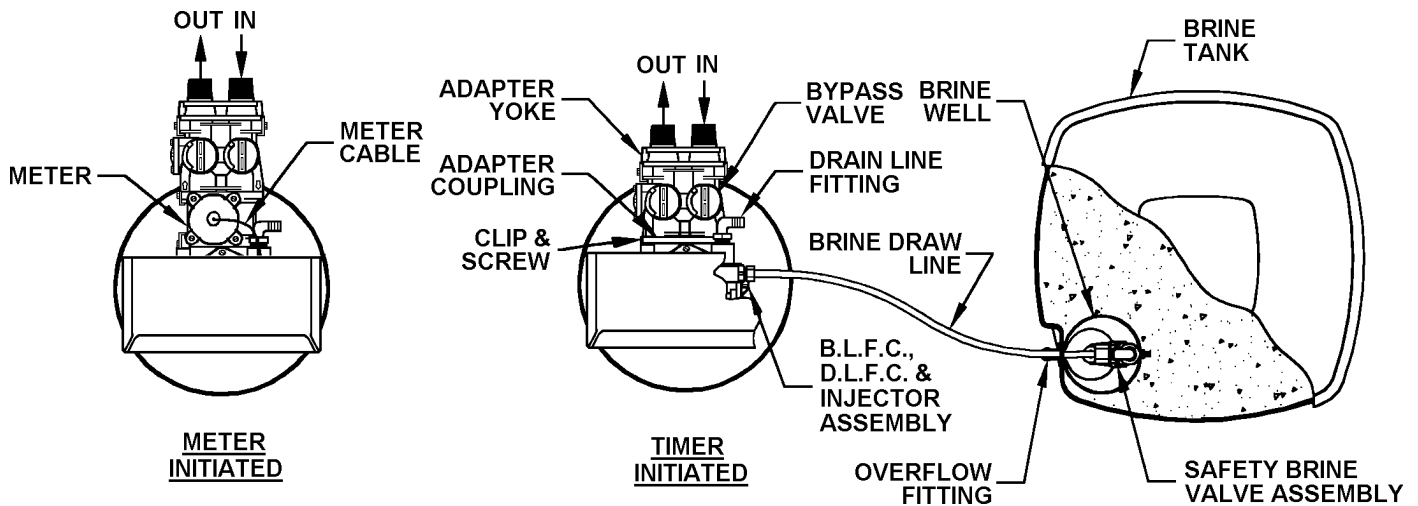

Figure 2. SOFTENER AND BRINE TANK ASSEMBLY, TOP VIEW
Step 1. If not factory pre-installed, attach BYPASS VALVE or YOKE ASSEMBLY using ADAPTER COUPLINGS, CLIPS and SCREWS to CONTROL VALVE (Figure 2). On meter initiated models, attach METER between BYPASS VALVE and CONTROL VALVE (Figure 2).
- Step 8. Connect one end of the 3/8 in. poly line to BRINE VALVE located on the right side of CONTROL VALVE. Connect other end to ELBOW inside of BRINE WELL. Brass insert sleeves and plastic ferrules must be used where necessary. (Figure 2 and CONTROL VALVE PARTS Drawing, Section 6).
- Step 9. Install OVERFLOW LINE to brine tank OVERFLOW FITTING (Figure 2). Discharge of line must be lower than OVERFLOW FITTING. **DO NOT** INTERCONNECT OVERFLOW LINE WITH VALVE DRAIN LINE.